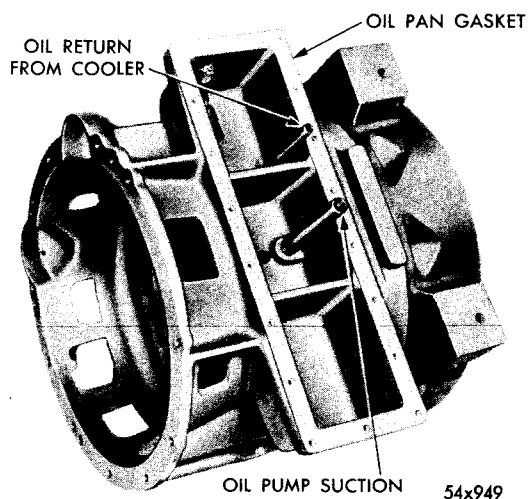

Fig. 19—Removing or Installing the Oil Suction and Return Pipes
- (11) Remove the oil suction and the oil return pipes from the inside of the Converter Housing, after the oil pan is removed, as shown in Figure 19.
pipes, as shown in Figure 19. Tighten securely.